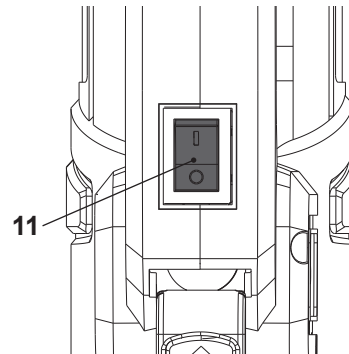

Fig. 6
1. Switch the product on by pressing the on/off switch (11) at "I" marking (Fig. 6).
2. Switch the product off by pressing the on/off switch (11) at "O" marking.